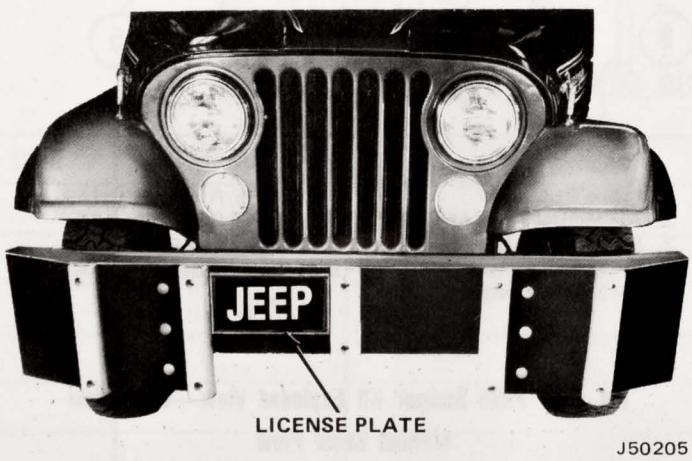

Fig. 3-4 Push Bumper Installed
(8) Insert short inner plate into short rubber guard, aligning holes in guard with holes in plate.
(9) Position short rubber guard assembly at center of bumper and install carriage bolts and locknuts. Tighten nuts to 40 foot-pounds torque.
(10) Install front license plate on bumper, if required (fig. 3-4).